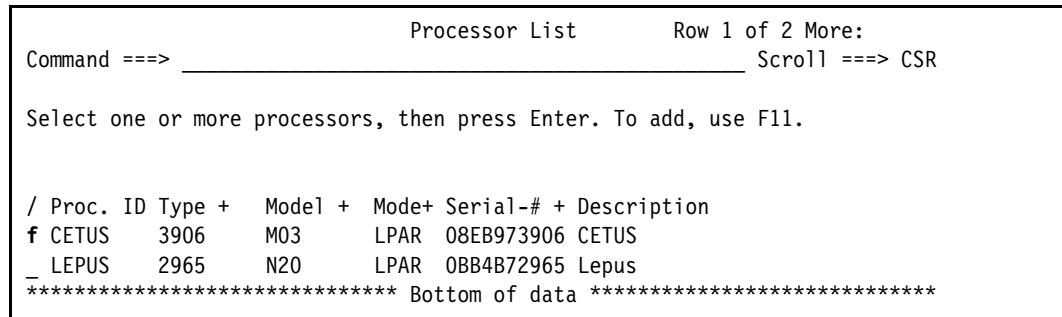

Figure 15-8 Processor List: Adding PCIe functions to a processor, RoCE-2
2. Enter f (work with PCIe functions) next to the processor (CETUS) to which you want to define the RoCE-2 functions and press **Enter**. See Figure 15-8.